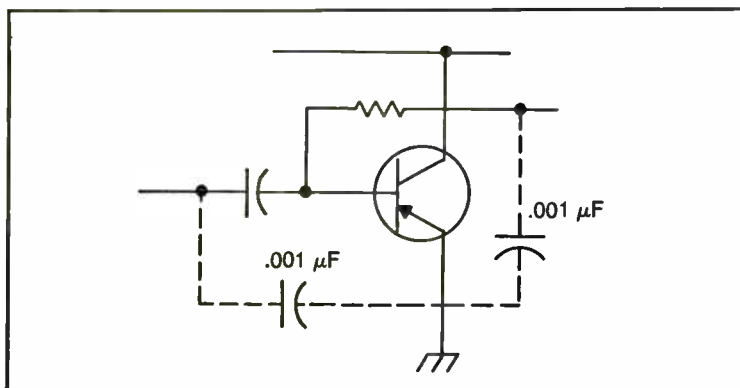
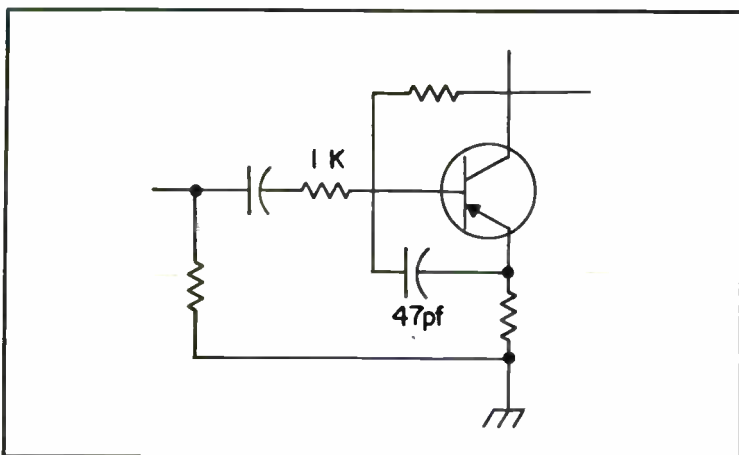

Fig. 20-19. Using a shunt capacitor to remove interference in transistor equipment.
Fig. 20-20. A resistor/capacitor combination for removing interference in transistor equipment.
**Transistor Equipment.** Interference in transistor equipment can usually be eliminated with the use of a shunt capacitor as shown in Fig. 20-19. A resistor/capacitor combination can be used as shown in Fig. 20-20. It is important that the filter network does not affect the biasing of the transistor or the frequency response of the amplifier.